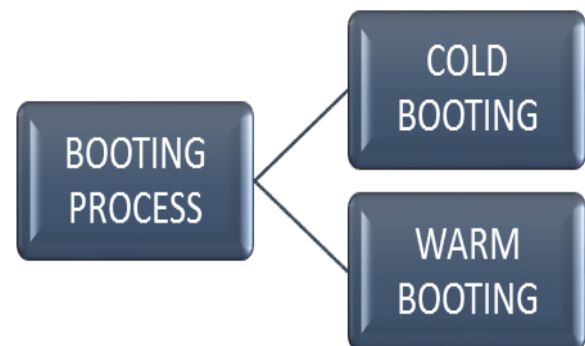

Figure 9.3 : Two types of Booting process
An Operating system (OS) is a basic software that makes the computer to work. When a computer is switched on, there is no information in its RAM. At the same time, in ROM, the pre-written program called POST (Power on Self-Test) will be executed first. This program checks the conditions of the devices like RAM, keyboard, etc., for proper functioning and their readiness for operation. If these devices are ready, then the BIOS (Basic Input Output System) gets executed. This process is called Booting. Thereafter, a program called "Bootstrap Loader" transfers OS from hard disk into main memory. Now, the OS gets loaded (Windows/Linux, etc.) and will get executed. Booting process is of two types as shown in Figure 9.3.